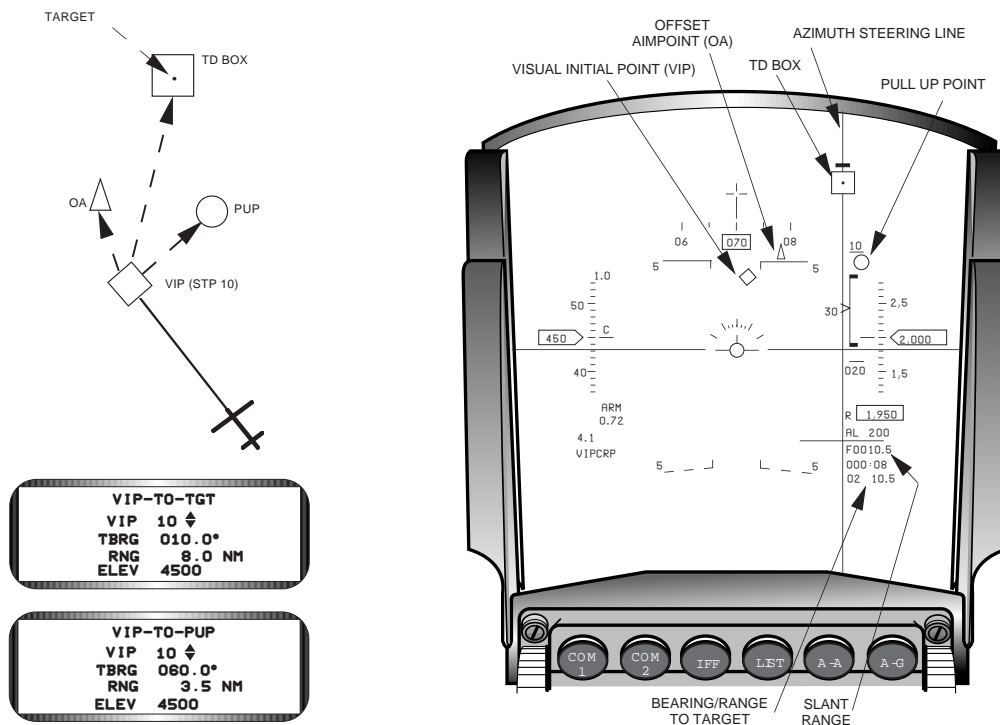

Figure 5-3 VIP Sighting Option
- The IP diamond, the PUP circle (if data is entered), and OA triangle (if data is entered) are displayed in the HUD (Figure 5-3).